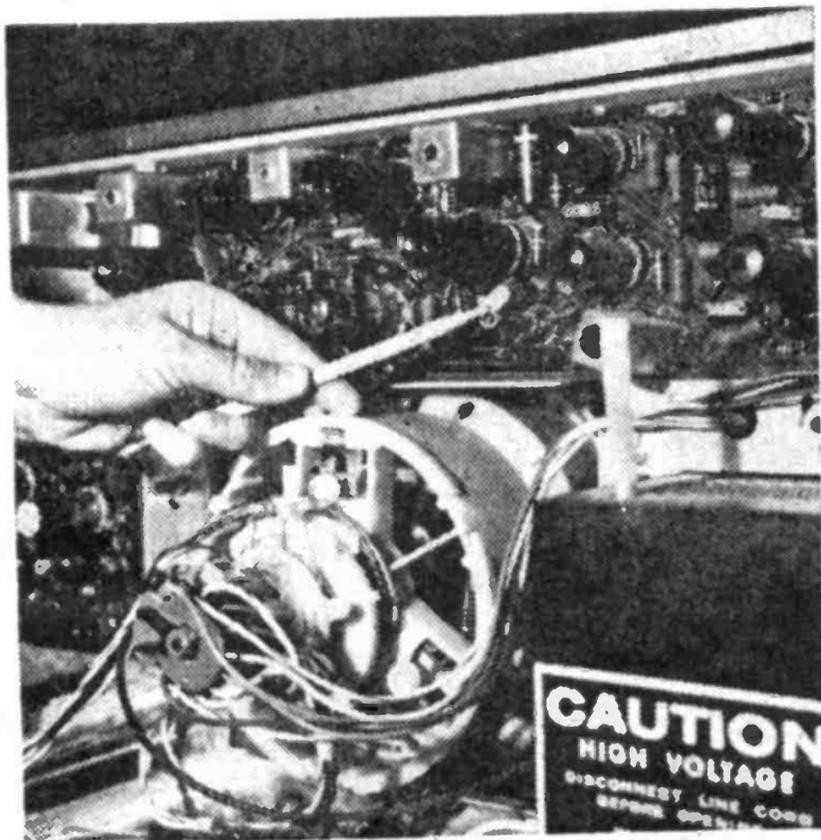
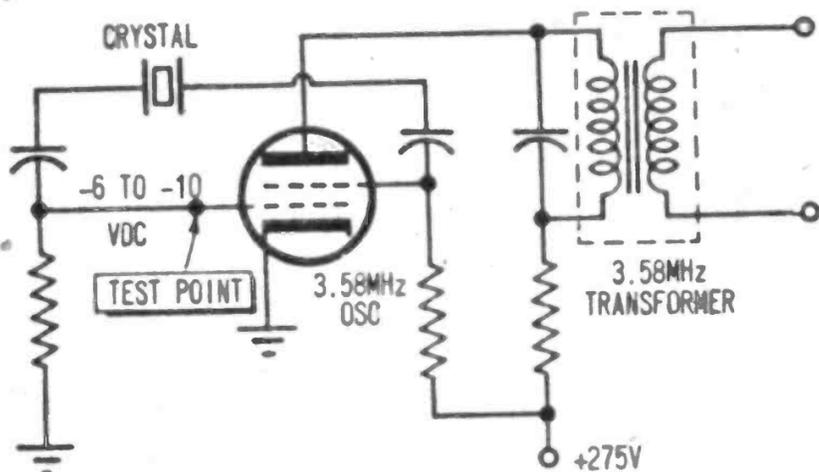

Fig. 6. If tubes don't seem to be causing the problem, try checking the 3.58 MHz crystal.
Fig. 7. Circuit of typical 3.58 MHz oscillator. A voltage check with a VTVM will determine if it's OK.
**Crystal Oscillator.** If tubes don't restore color, you'll need a VTVM to do some further checking. And a good place to start is at the 3.58 MHz oscillator (Fig. 6). Set makers often provide a test point for measuring grid voltage developed by the oscillator during normal operation. Voltage in a typical oscillator (see Fig. 7) is about  $-6$  to  $-10$  VDC.